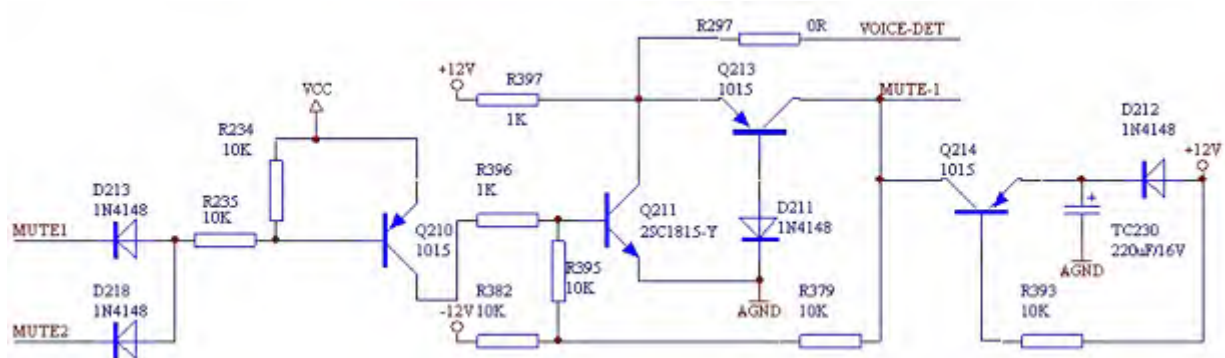

Figure 3.2.7.1 Mixed left/right channel mute circuit and power-off quieting circuit diagram
(1) Mixed left/right channel mute circuit and power-off quieting circuit is shown as the following figure 3.2.7.1: